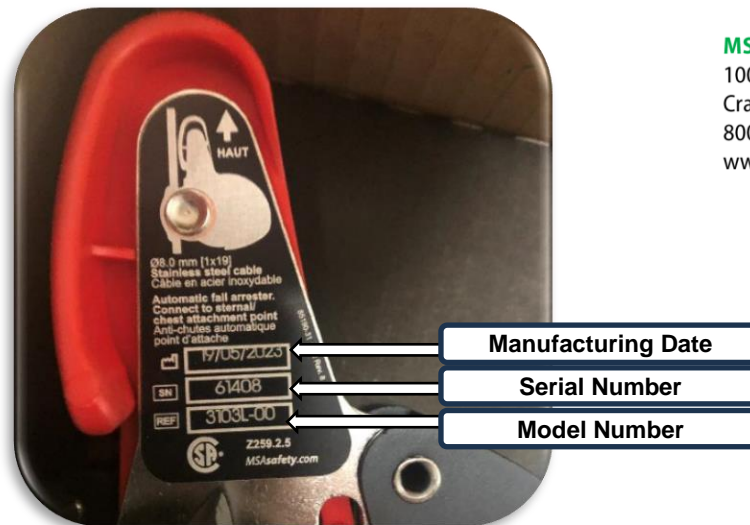

Figure 2: GTFA Inspection Data
- 1) **Confirm Model Number and Manufacturing Date** – Refer to Figure 2